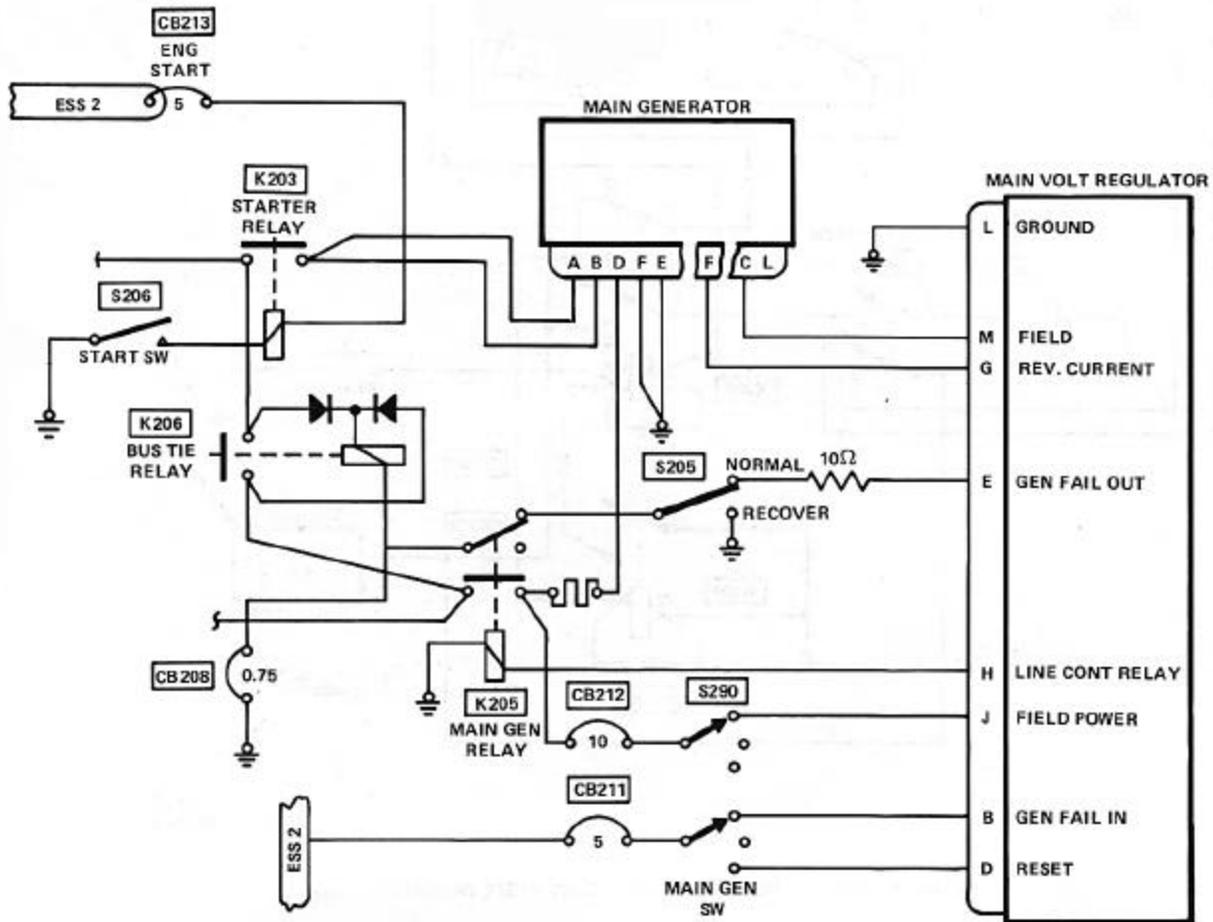

Figure 24-4. Main Generator Simplified Schematic Diagram
1. Start Mode. In the start mode, power is provided to the starter windings through starter relay (K203) which is energized through CB213 and ground through start switch (S206). When the engine ignites, the pilot releases S206 which disengages starter relay K203. (Refer to Figure 24-4.).